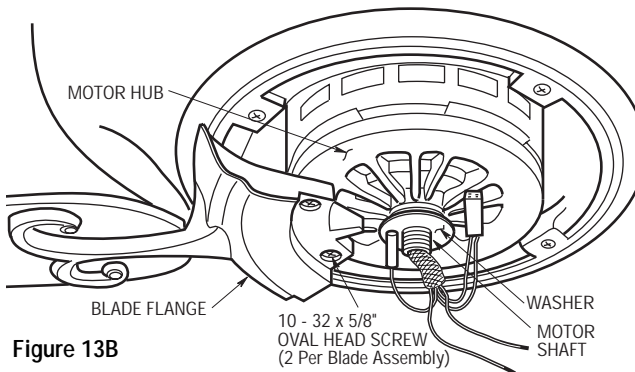

Figure 13B
- 21. Attach one blade assembly to the motor hub using two 10-32 x 5/8" oval head screws (supplied) (Figure 13B). Do not tighten completely at this time. Install remaining blade assemblies in the same way. Gently snug all flange screws to the motor hub, working around the hub in a clockwise sequence. Next, securely tighten all flange screws, again working in a clockwise sequence. Failure to follow this procedure could result in fan wobble. This completes the blade installation.
- 22. Pass the connectors and the wires from the motor shaft through the washer (supplied) and position the washer over the motor shaft (Figure 13B).